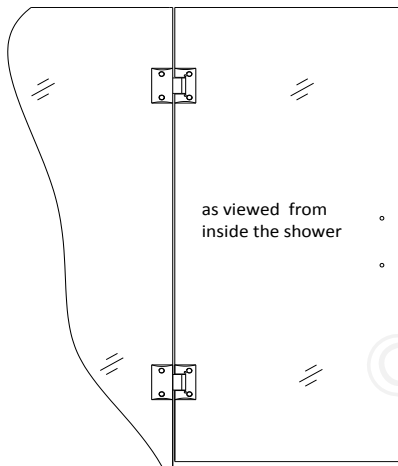

Figure 1
**1.** Make sure the door glass is plumb and the edge of the hinge is installed flush with the glass edge. Tighten the faceplate screws. (Figure 1)